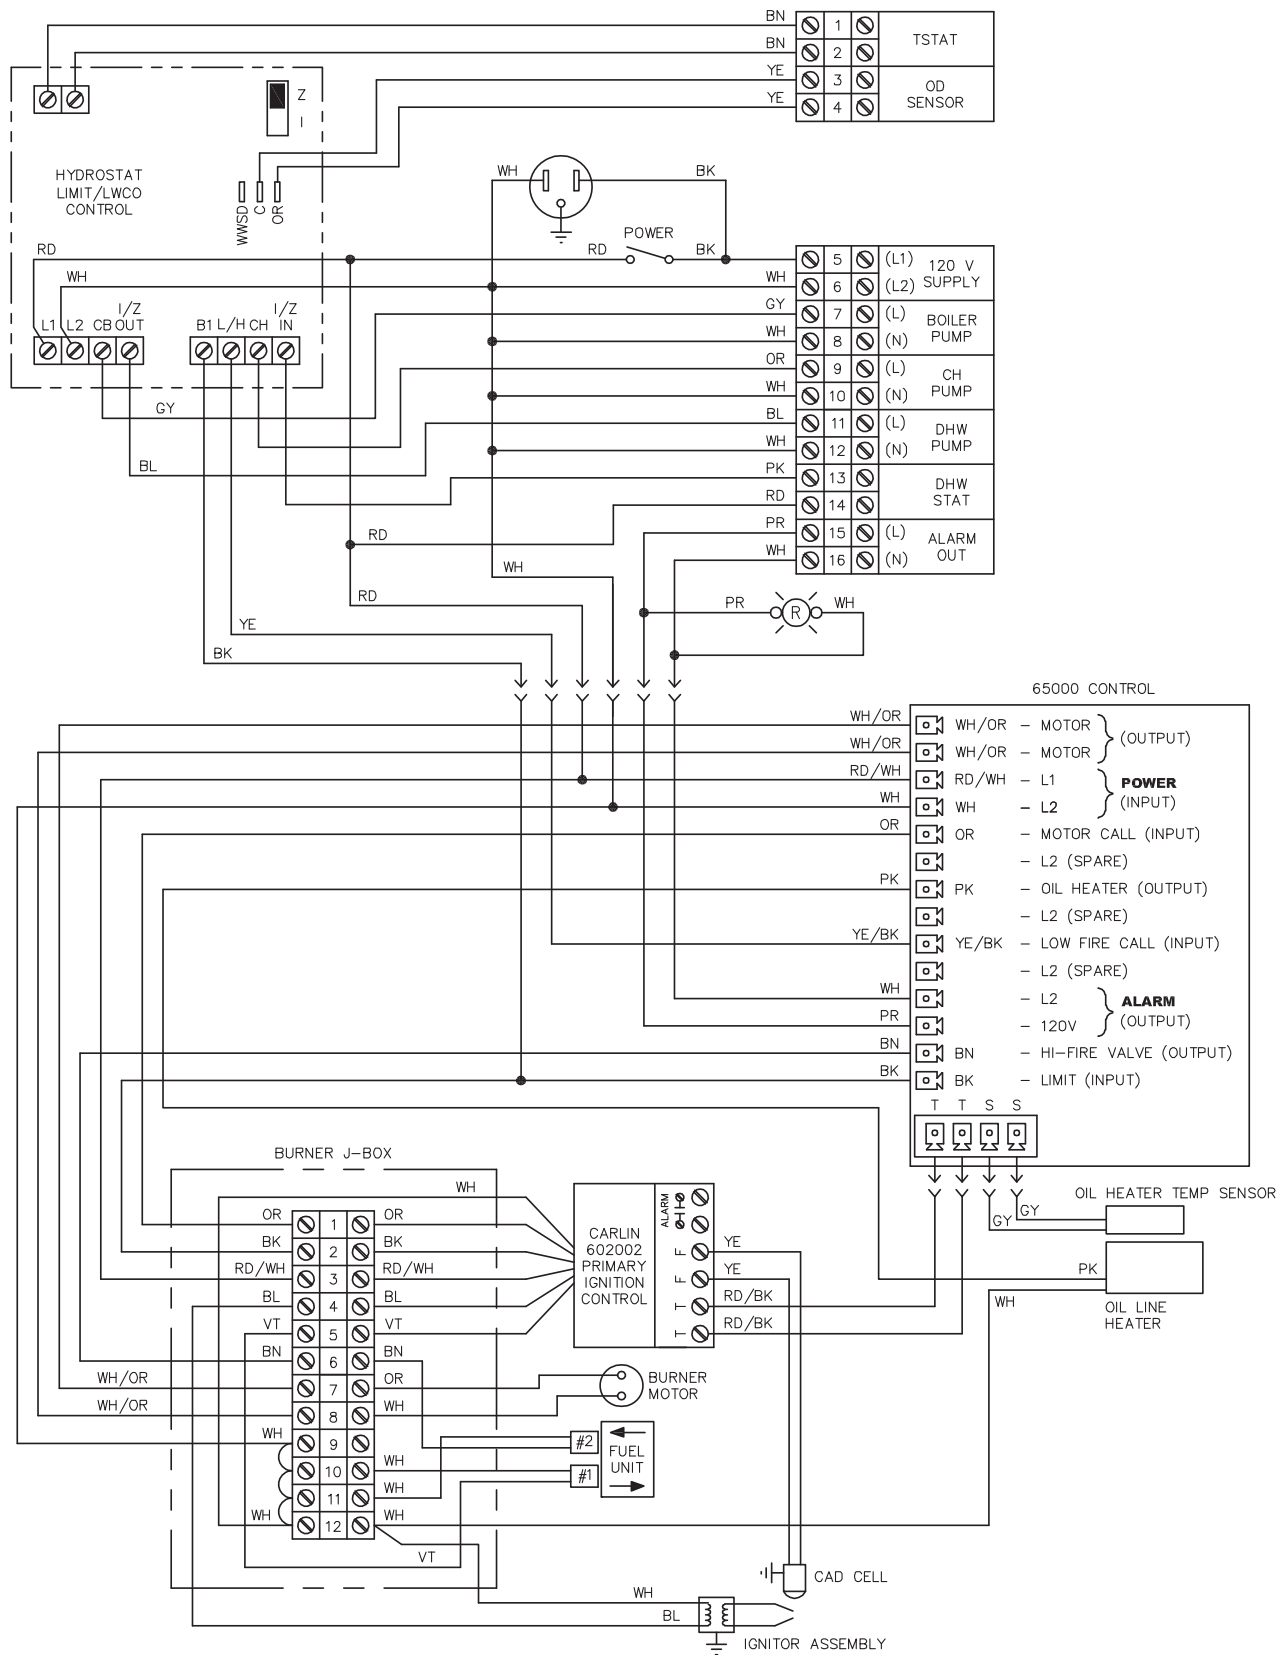

Figure 7.2: WB90™ Electrical Wiring Schematic
3. Figure 7.2 shows the customer connections and internal wiring for the WB90™ boiler.
4. Terminals #1 and #2 are for connection to the room thermostat or zone control output to activate a call for central heating (CH).
8. Terminals #9 & #10 provide 120 VAC output to operate central heating (CH) pumps.